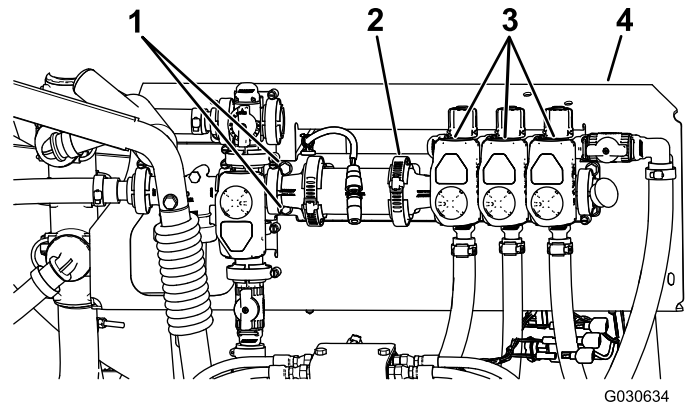

Figure 4
- Loosen, but do not remove, the bolts that secure the boom-valve-assembly to the mounting bracket (Figure 4).
- Loosen the existing hose clamp that secures the KZ valve to the boom-valve assembly (Figure 4).